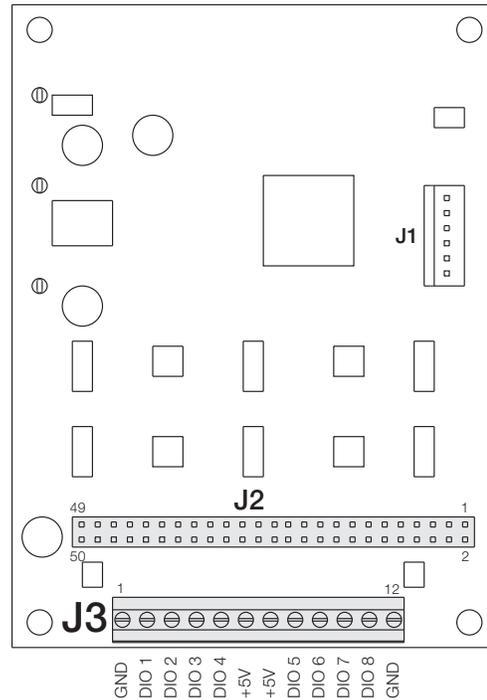

Figure 2. Digital I/O Expansion Card
5. Make connections to the option card as required. Figure 2 shows connections available on option card connector J3 (up to eight digital I/O channels). Connector J2 provides all 24 channels using a 50-pin ribbon cable (see Table 1).